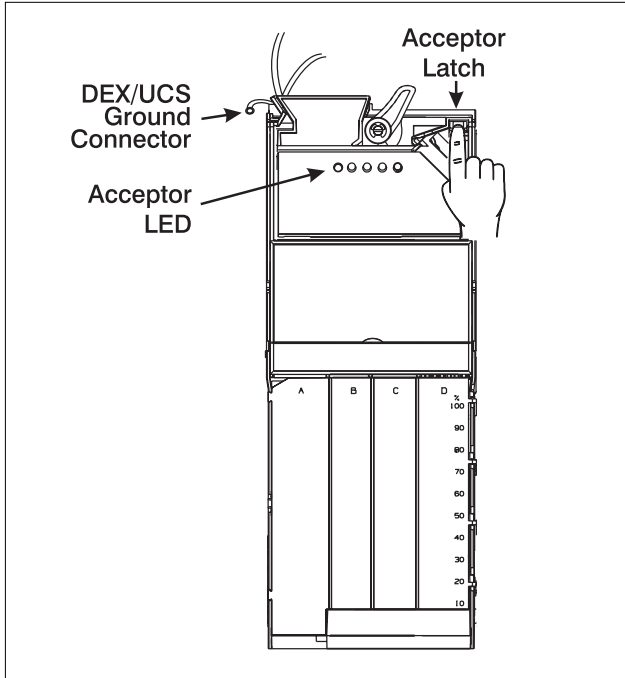

Figure 1
2. Remove the acceptor from the changer by pressing down on the acceptor latch, releasing the acceptor. Rotate the top of the acceptor forward, away from the changer (see figures 1 and 2). Unplug the ribbon cable from changer. Free the lower acceptor studs from the changer housing. Place the acceptor in a clean area.